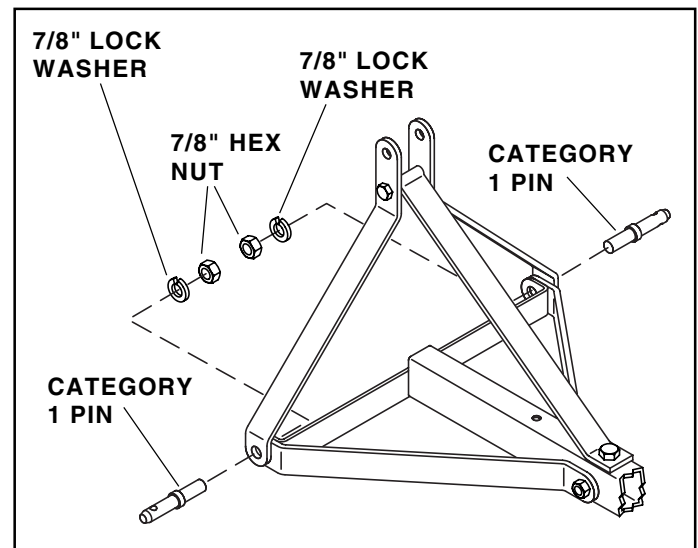

FIGURE 6
- Connect the lower end of each mast side and the front end of the each mast brace to the ends of the mast assembly using two category 1 pins, two 7/8" lock washers, and two 7/8" hex nuts. See figure 6.